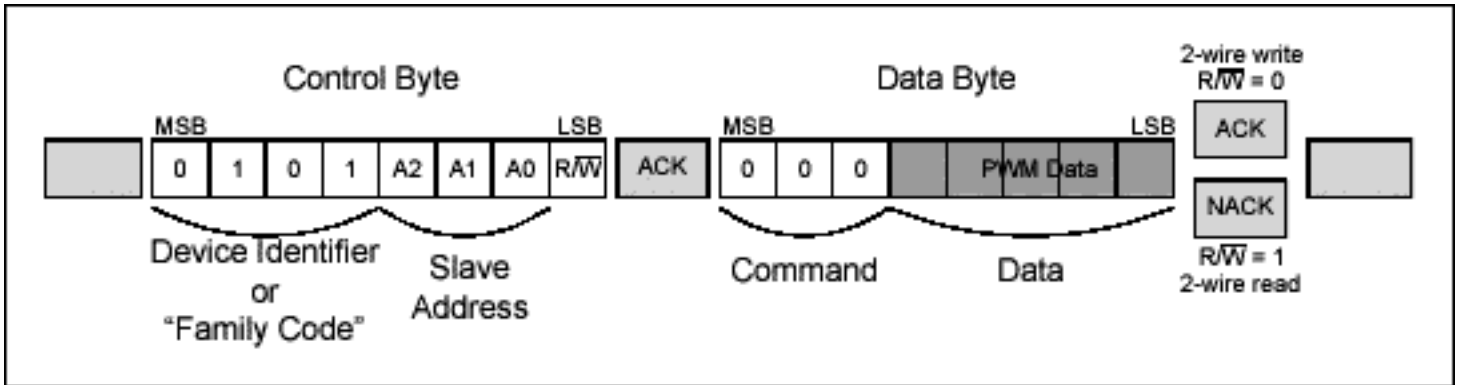

Figure 2. Typical 2-Wire transaction.
**Figure 2** shows how these bits are used in a typical 2-wire transaction. After the 2-wire master generates a START condition, the Control Byte is sent (MSBit first) to select a particular device on the 2-wire bus. All devices on the bus "listen" to the Control Byte and check to see if it matches its own device identifier and slave address.